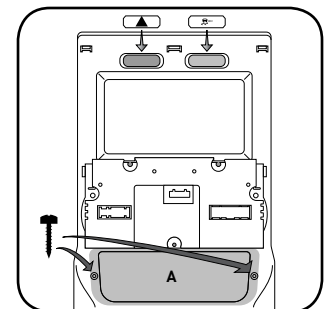

Fig. 7.0
8. Insert and fix the storage pocket at the bottom of the dash panel, using provided screws. (Fig. 7.0 A)